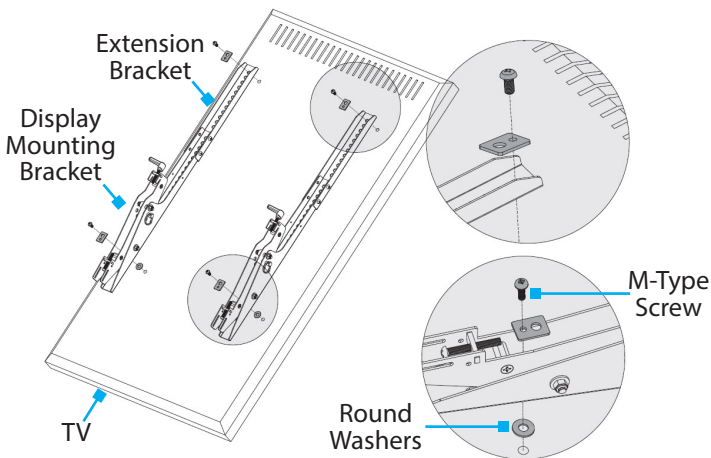

Figure 4
5. Place the four **Rectangular Washers** onto the **Display Mounting Bracket Assemblies**. Align the holes in the **Rectangular Washers** with the **VESA Mounting Holes**. (Figure 4)